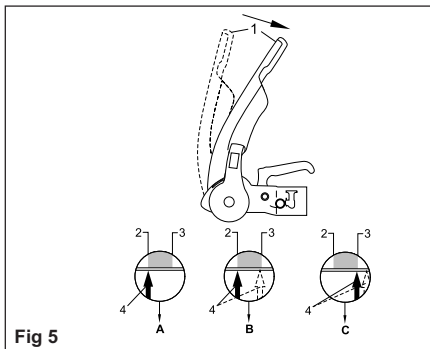

Fig 5
- Open Stabiliser lever (Fig. 5/Item1).
- If the arrow on the arm (Fig. 5/Item 4) is before or on the marked area (Fig. 5/Item 2) the friction pads are still as new (See A)